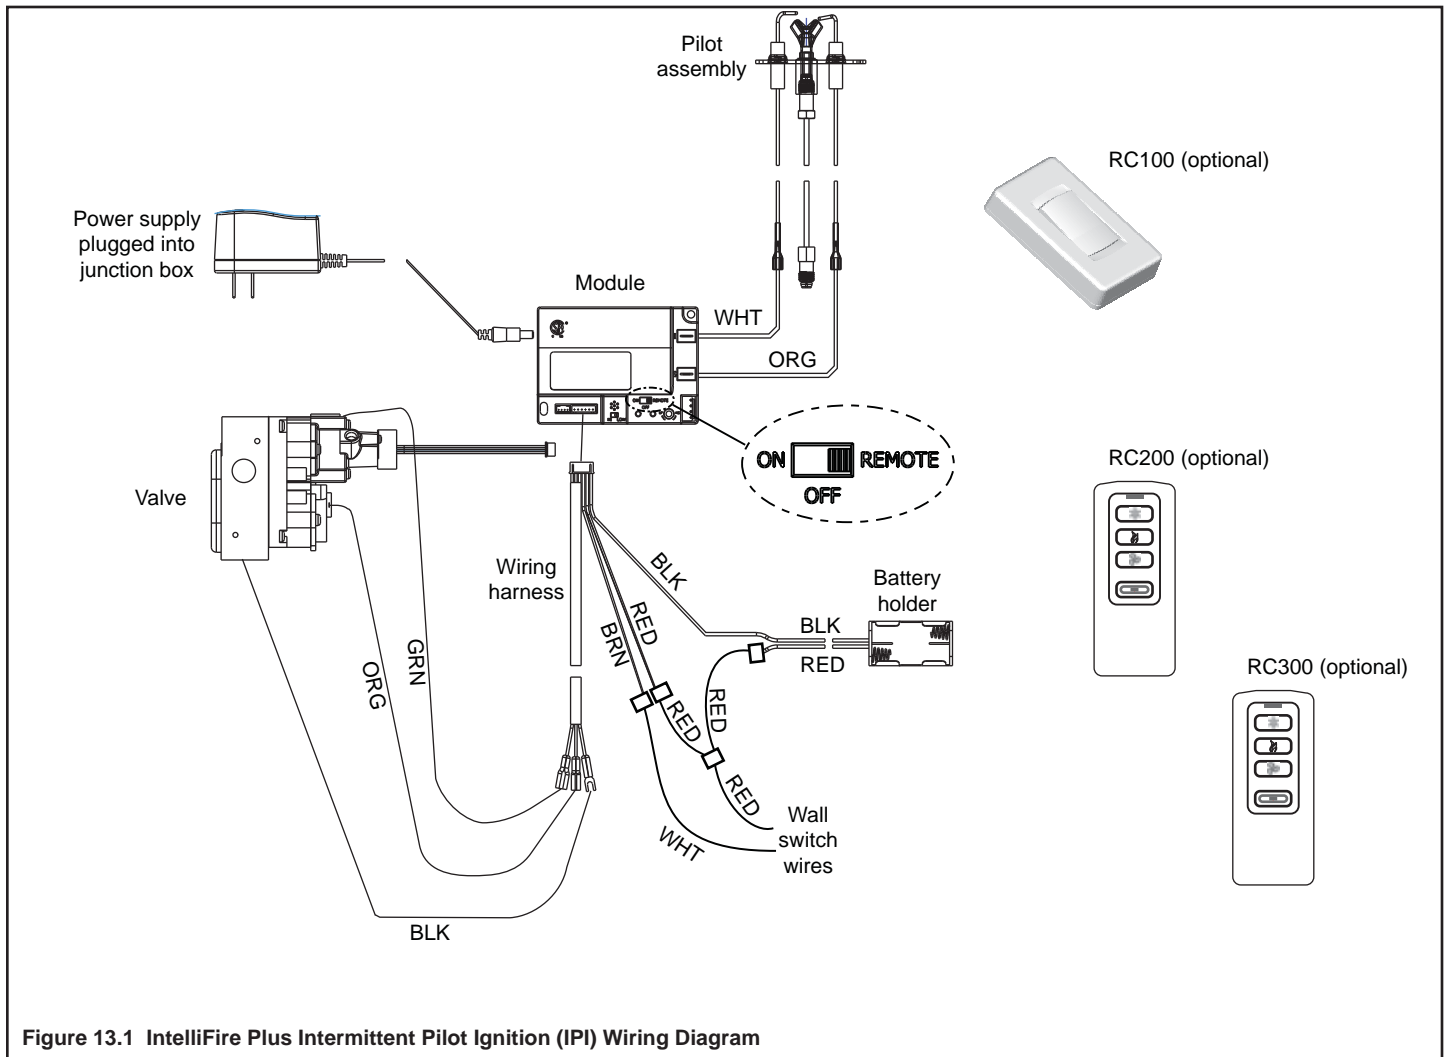

Figure 13.1 IntelliFire Plus Intermittent Pilot Ignition (IPI) Wiring Diagram
- Refer to Figure 13.1, IntelliFire Plus intermittent pilot ignition (IPI) wiring diagram.